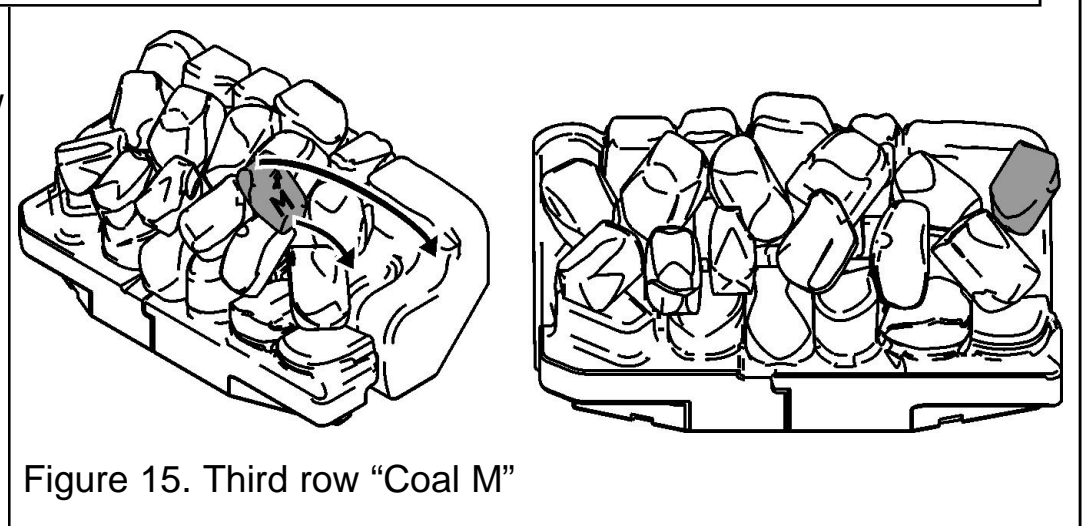

Figure 15. Third row "Coal M"
**17.** Hold coal 'M' upright with the arrow pointing to the top. Locate coal 'M' as shown in figure 15.